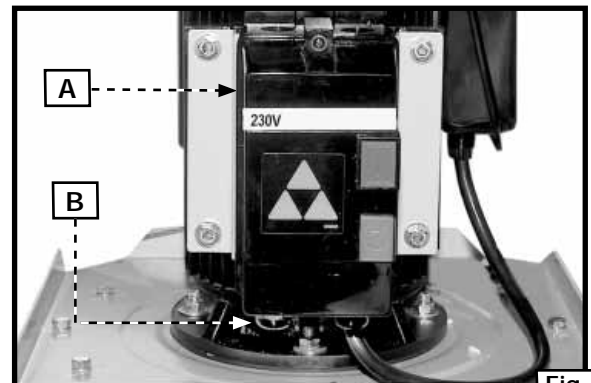

Fig. 15
1. To connect the dust collector to a power system, remove the controller cover (A) Fig. 15.
2. Bring the three-phase power line through the access hole (B) Fig. 15 in the bottom of controller box.